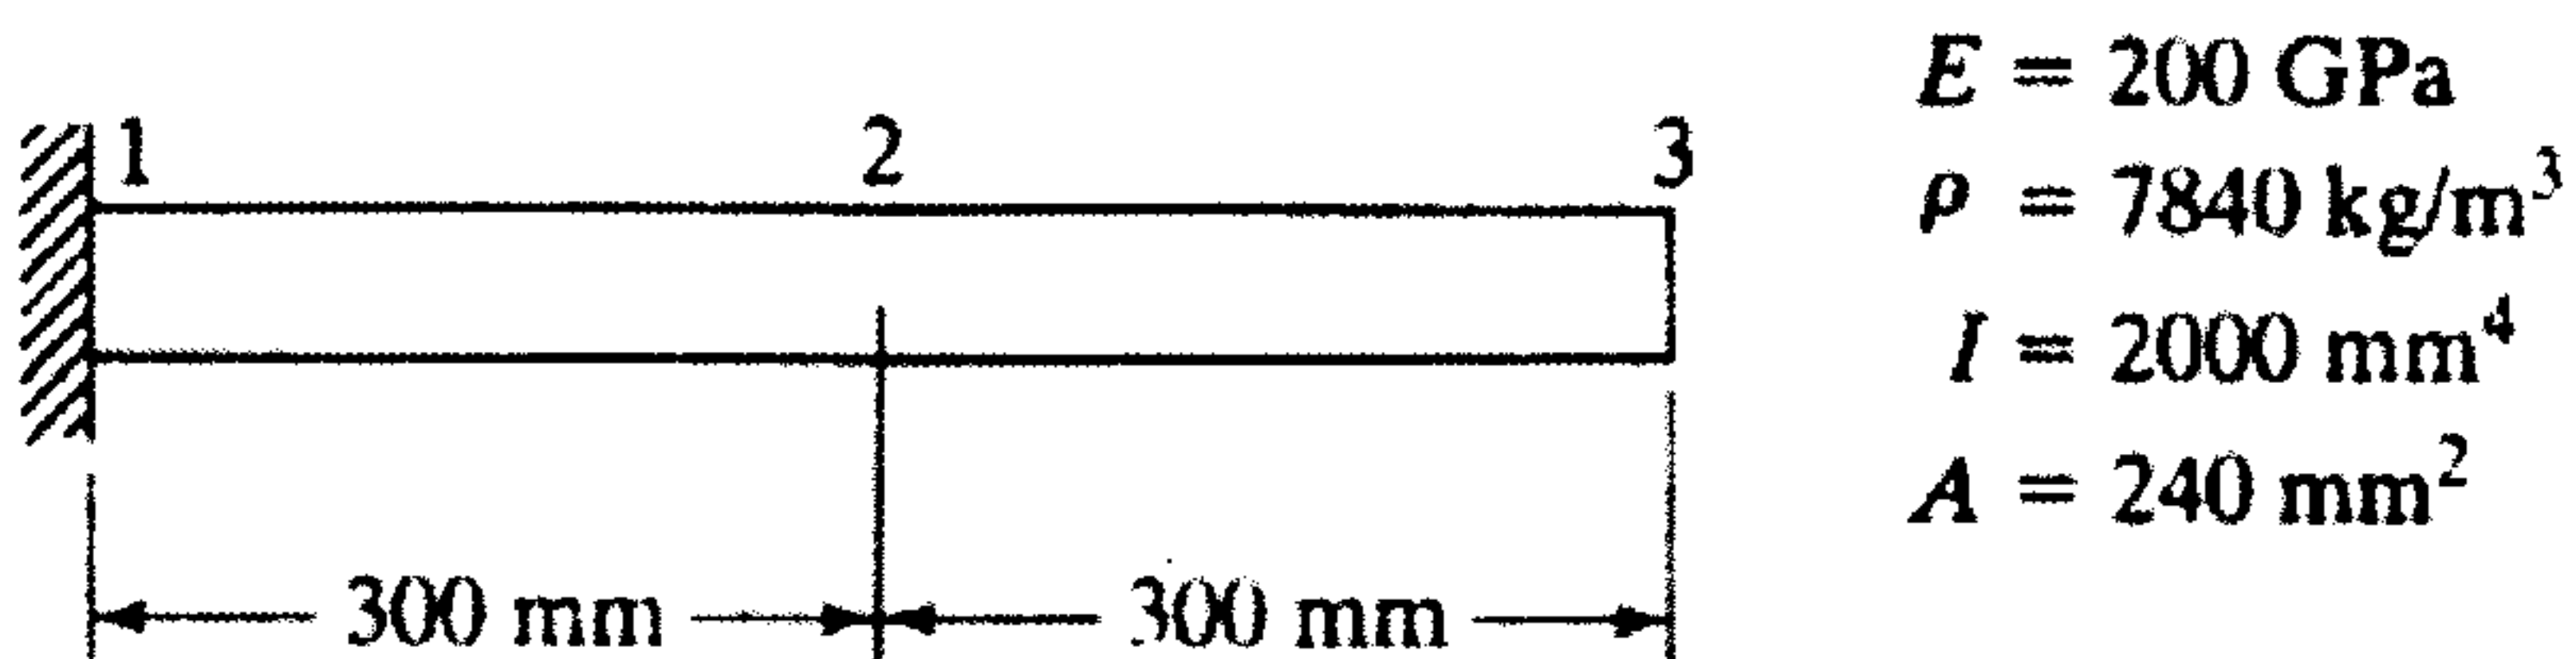

Figure-5
7. Evaluate the lowest eigenvalue and the corresponding eigenmode for the beam shown in Figure-5. 14 M